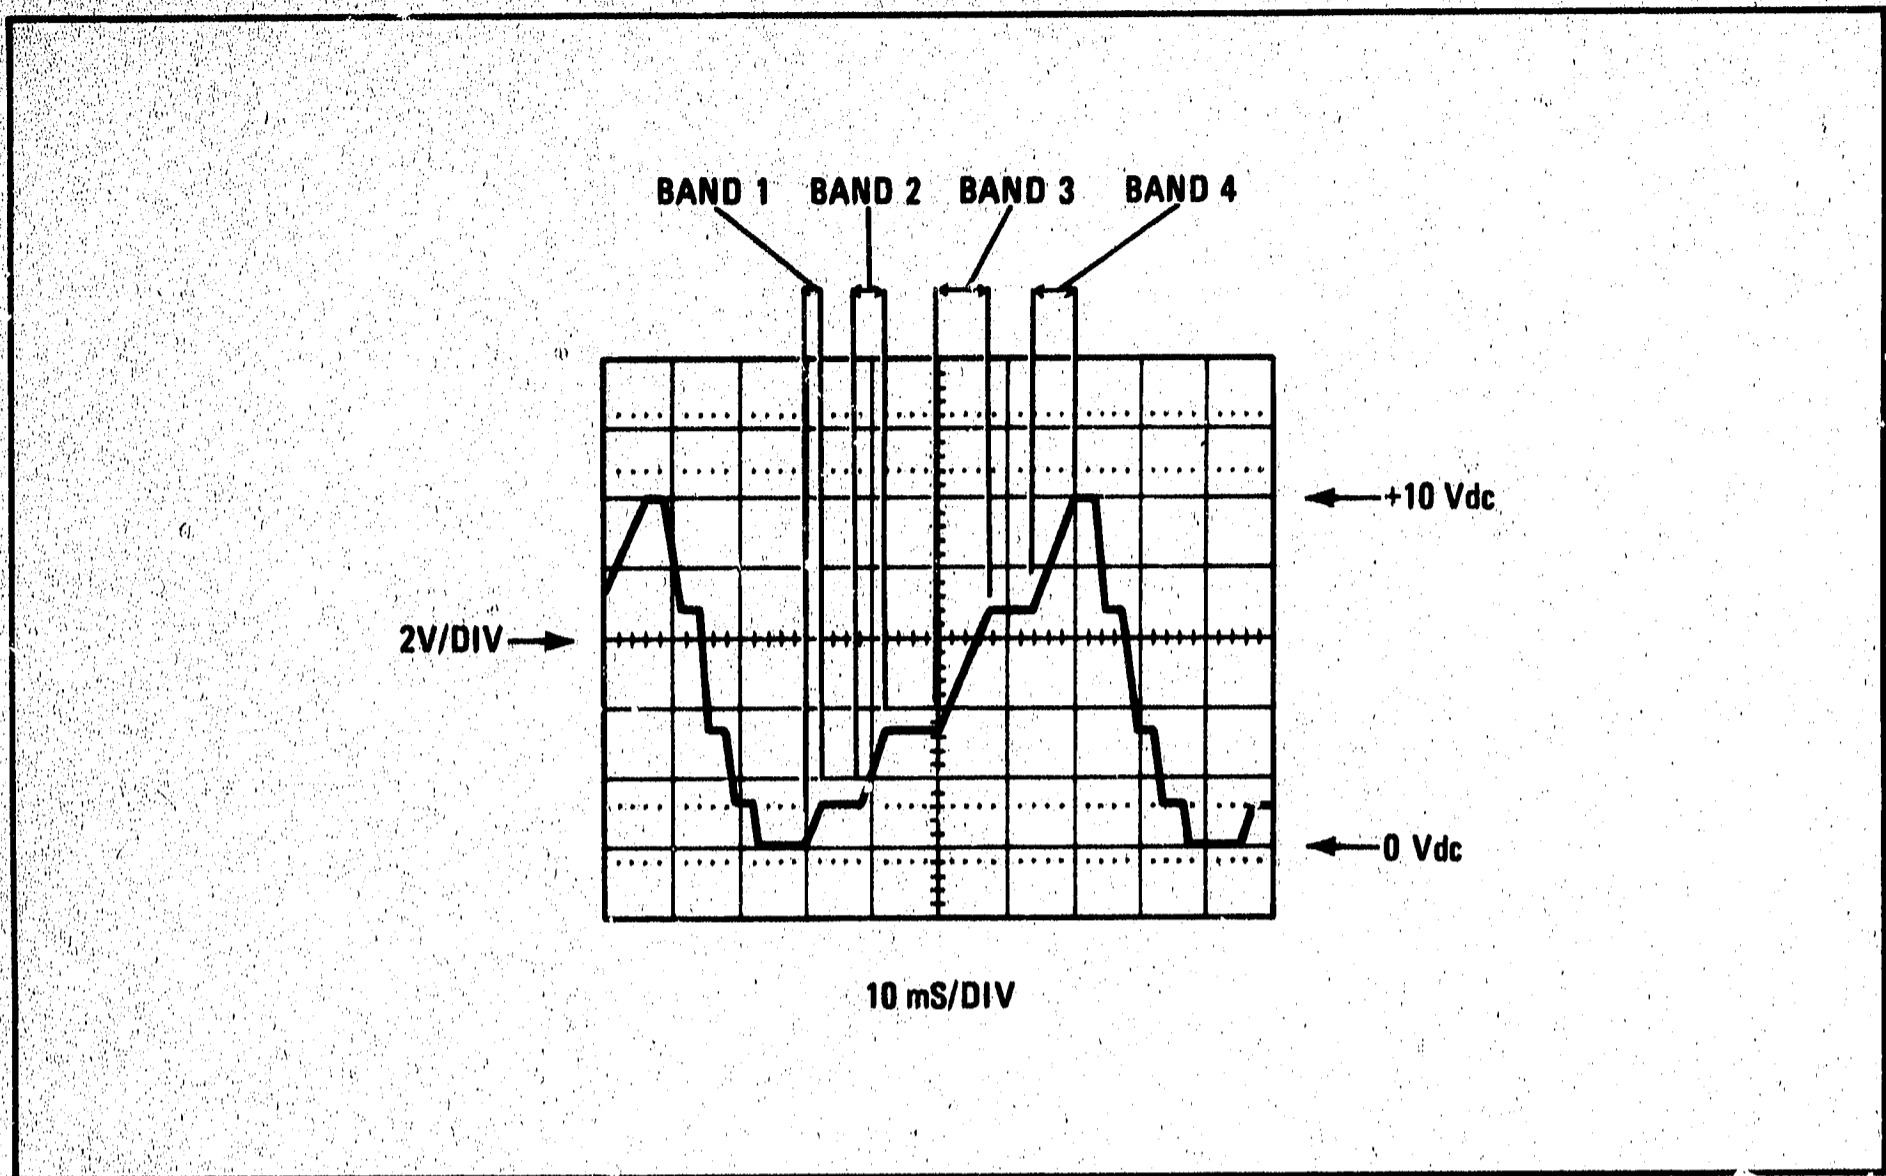

Figure 8-2. 8350A SWEEP OUT/IN Output for 83592A Full Band Sweep
8-33. On the 8350A, press INSTR PRESET and check the front and rear panel SWEEP OUT/IN connectors with an oscilloscope for a 0 to 10 Vdc sweep ramp. If the RF plug-in is an HP 83592A, as supplied in the standard system, the sweep ramp will appear as shown in Figure 8-2. Bandswitch points may clearly be seen on this sweep ramp.
3. Varying the marker frequency should cause the marker pulse position to vary accordingly on the oscilloscope trace. Figures 8-2 and 8-3 may be simultaneously displayed to match the corresponding signal points for each band. The composition of this waveform will vary according to the RF plug-in being used, but the levels displayed will remain the same.